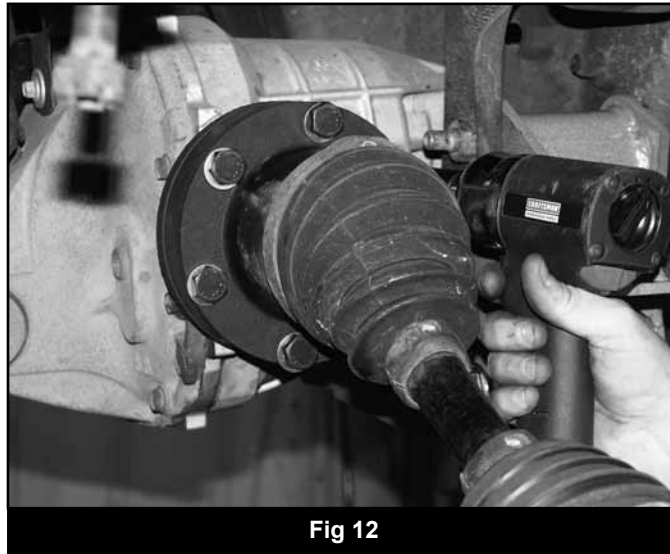

Fig 12
41. Install the provided CV shaft spacer between the differential mounting flange and the CV shaft. Fasten the CV shaft and spacer to the differential flange with 12mm x 45mm bolts and 12mm flat washers from bolt pack #535 (Fig 12). Use Loctite® on the bolts and torque to 60 ft-lbs in a crossing pattern.